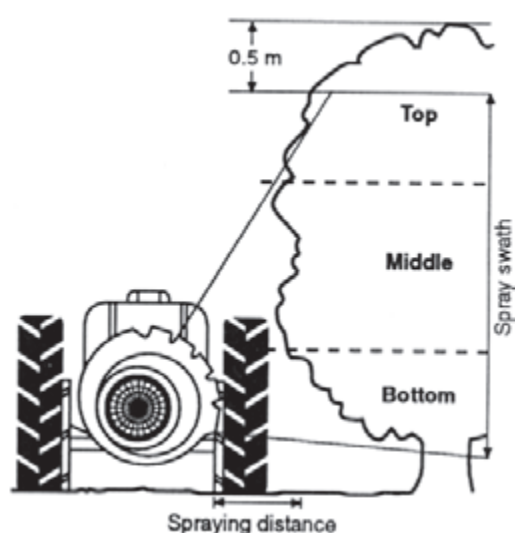

Figure 31. Positioning of spray machine to achieve effective spray swath
- The airstream outlet should be a minimum of about 1 m from the edge of the canopy to allow for unobstructed airflow and droplet dispersal (spraying distance in Figure 31).
- Set up the machine to spray the largest trees in the orchard. The spray swath (from lowest to highest nozzle) should cover the full height of the tree, but not waste spray in the air space above the tree. Adjust the spray swath so that the top of the airstream is about 0.5 m from the top of the tree (see Figure 31).